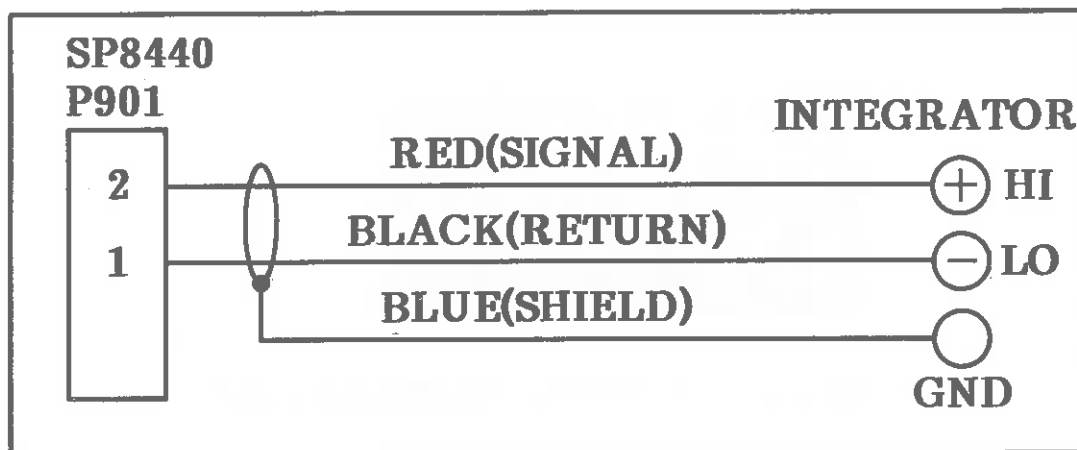

Figure 1.7 Integrator Wiring.
The red wire is a fixed 1.0 volt per 1.0 Absorbance Units (A.U.) for an integrator (with a 0.5 cm optical flow cell path). This wire should be connected to the high (HI), or plus (+) terminal of the integrator input (Figure 1.7).